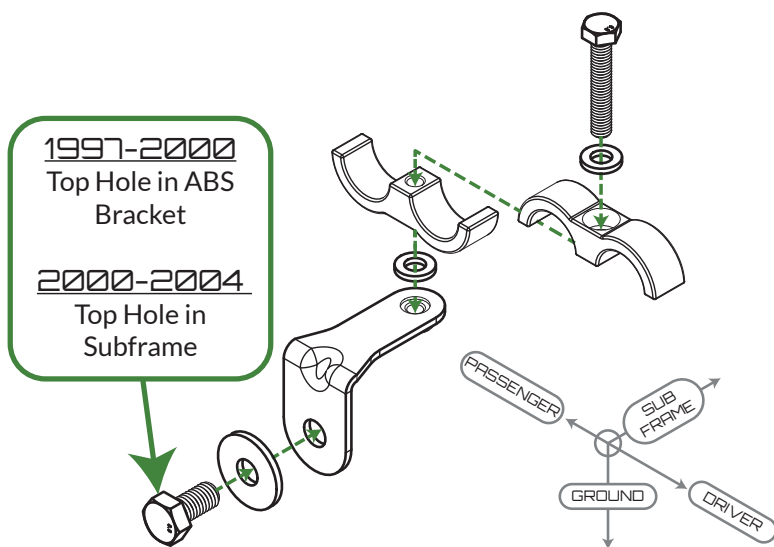

Figure 7 - Hardware Arrangement for Subframe Hose Clamp
- a. Connect the line routed above the wiring harness to the rear (IN) port of the EGM-112.
25. Unpack EC5-600-61 and loosely assemble the hardware as shown in Figure 7.
28. Use the provided M6 screw to install the hose clamp onto the L-bracket as shown in Figure 7 and Figure 9.